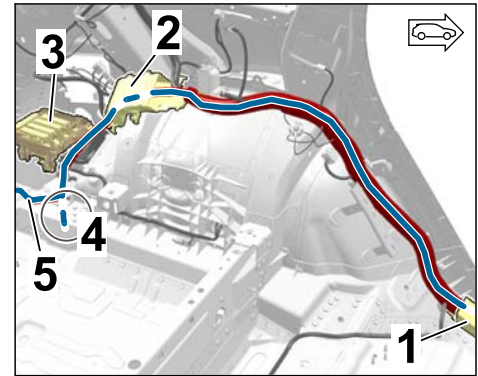

Figure 16
3.2.3 Wheel housing area. left (⇒ *Figure 16*)